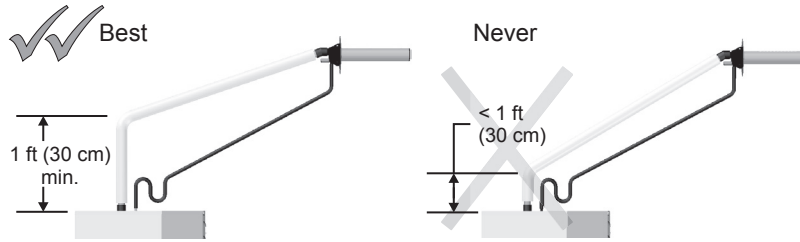

Figure 2: Vertical height recommendation from humidifier.
1. Always install at least 12" of vertical run directly from the humidifier before any slope or bend occurs. See Figure 2.